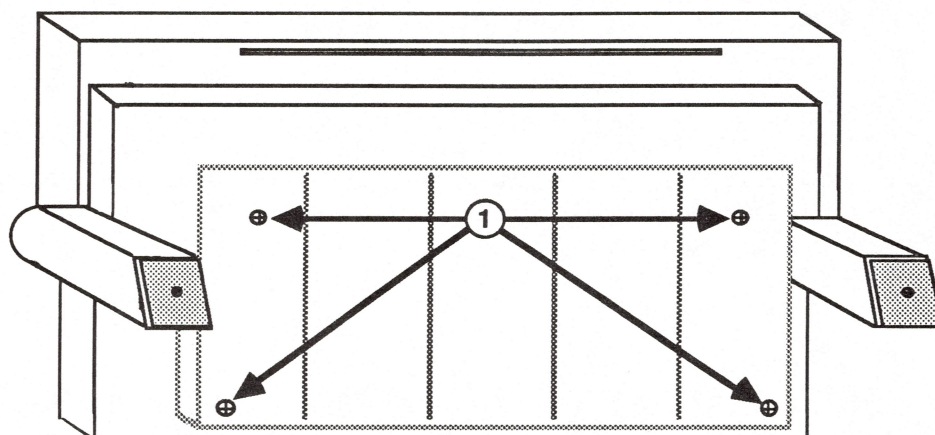

FIGURE 17
8. Turn the printer upside down and loosen the four screws as far as they will go (see Figure 17, #1).